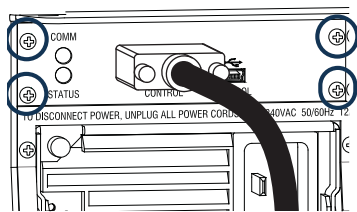

FIG. 38 Remove 4 screws
3. Remove the four screws on the left and right edges of the CPU faceplate (FIG. 38).